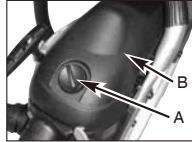

Fig. 15A
1. Remove knob (A) holding air filter cover in place, remove the top cover (B) by loosening the cover retaining screws. Cover will lift off. (Fig.15A)